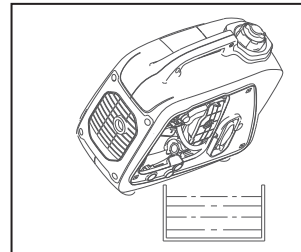

Fig. 9-3
- Tilt the generator to drain the oil to an oil pan completely. (See Fig. 9-3)